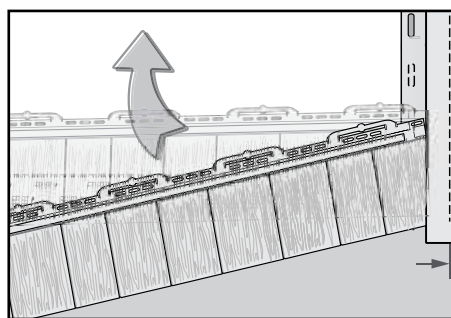
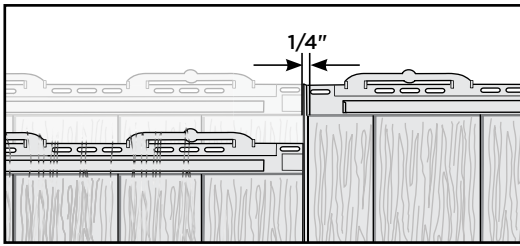

figure 1
figure 3
2. Starting on the right side of the wall, hook the bottom locking leg of the panel into the starter strip and slide panel into the cornerpost or receiving channel (figure 1). Leave 1/4" space between the panel and the corner for expansion.
4. Install the next panel by positioning it below the starter strip and next to the first panel. Push in and up to lock the panel into the starter strip, as shown in figure 3. Space the second panel according to the panel temperature at the corresponding temperature indicator lines (figure 1). Gently tap the outside of the HammerTapper™ ribs to properly position the panel left or right.